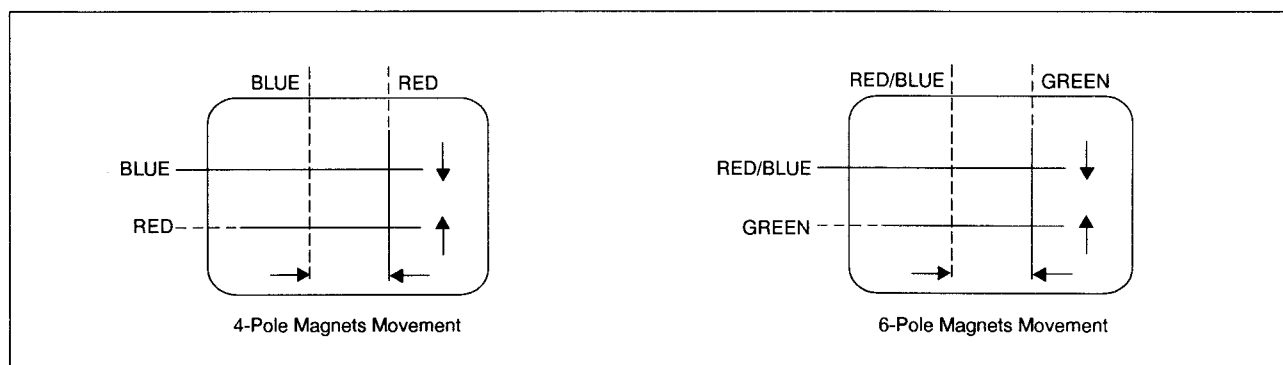

Fig. 5-3 Center Convergence Adjustment
8. Since the 4-pole magnets and 6-pole magnets interact, the dot movement is complex (Fig. 5-3).